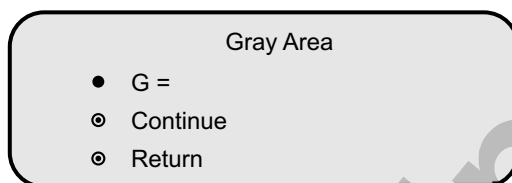

Fig. 9 : Gray Area
- When the cursor stays on **Continue**, press **Enter** key to go to sub menu (Fig. 9). If you want to return to the main menu, press **Reset** key; if you want to return to the superior menu, press ▼ till the symbol in front of **Return** becomes ● and then press **Enter** key.